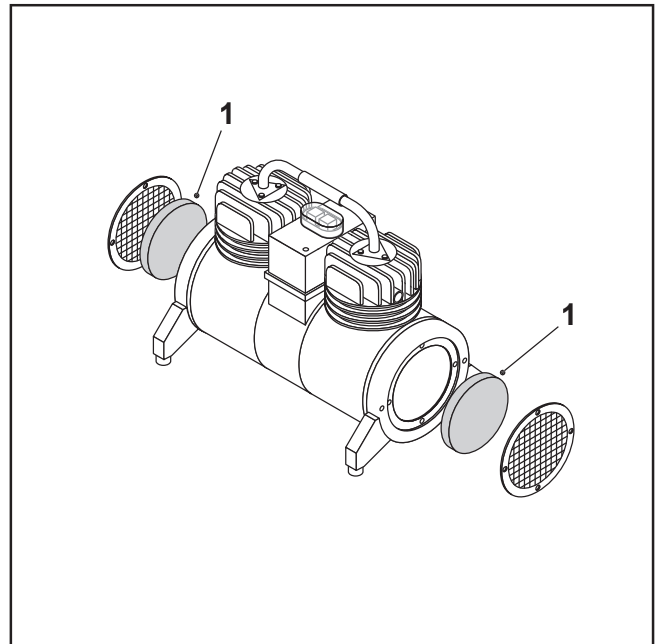

FIG.39
- Make sure the compressor's air filters (FIG.39-REF.1) are clean.
- Replace the compressor's air filters (FIG.39-REF.1).